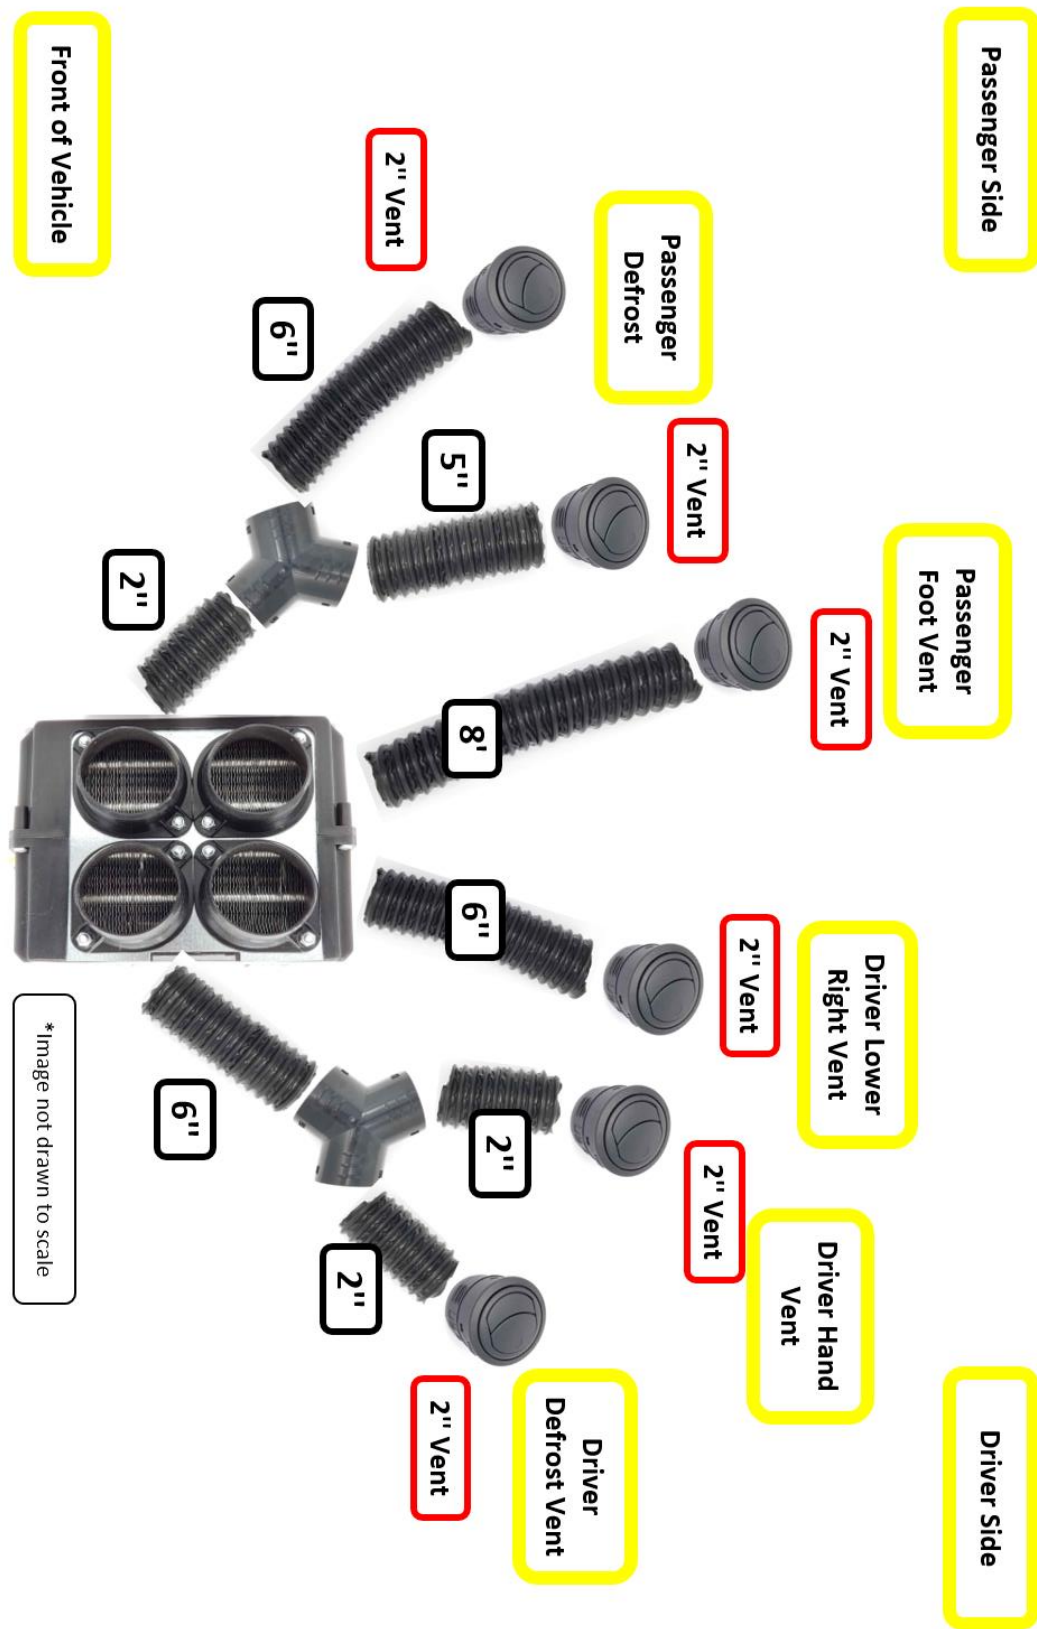

Figure 16
- n. Cut the 2" duct hose according to Figure 16. Note: Lengths are measured in a compressed state. Assemble the hoses to the Plastic Y fittings as shown and secure using zip ties.